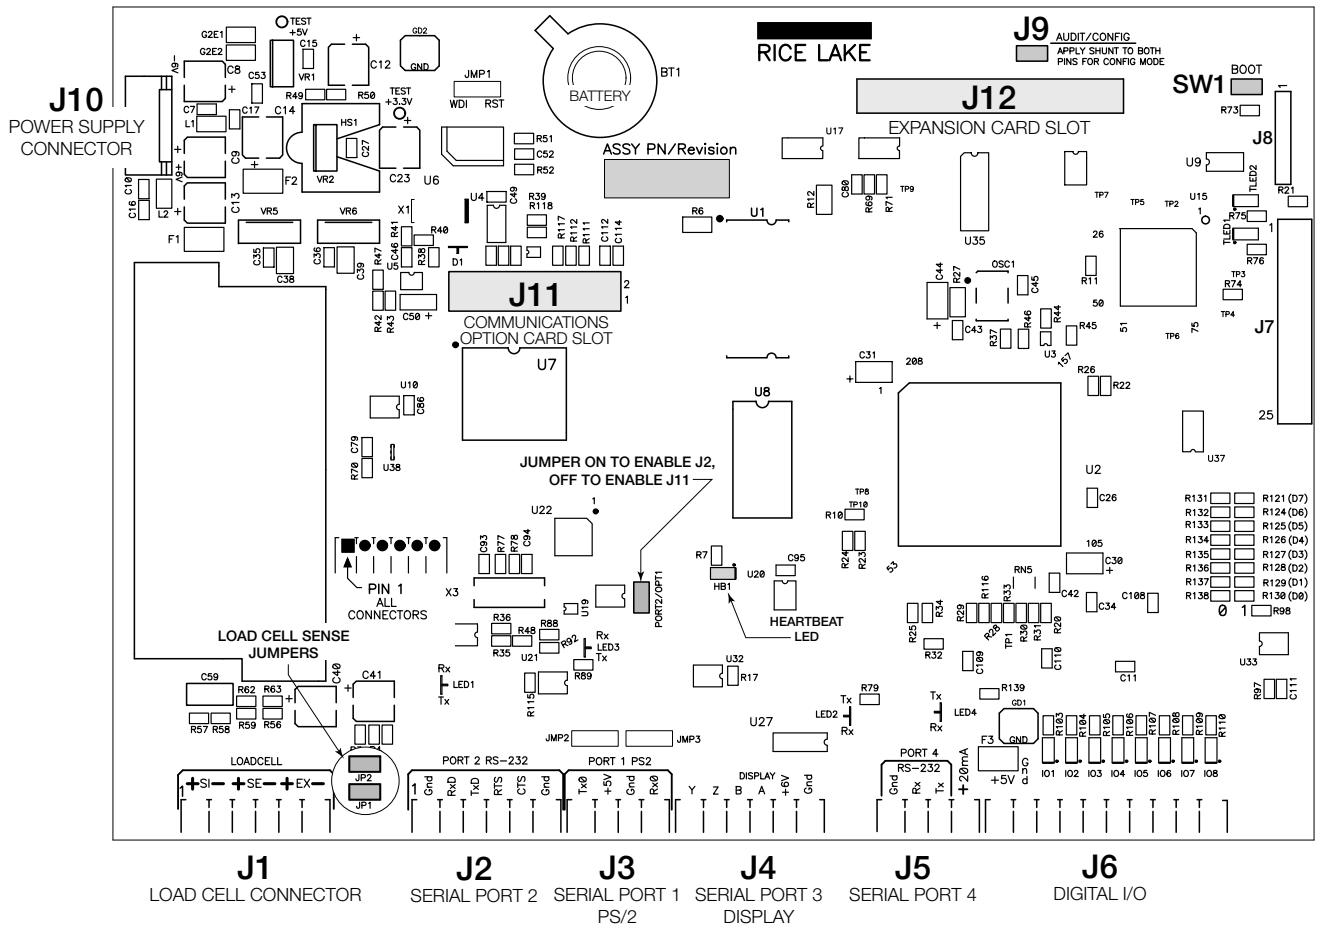

Figure 2-3. 720i CPU Board
Note *Installation of option cards in connector J11 requires removal of the PORT2/OPT1 port selection jumper (see Figure 2-3 on page 9). Install the jumper to enable RS-232 communications through connector J2; remove the jumper to enable an USB, fiber-optic, or Ethernet option card installed in connector J11.*
Table 2-4 shows the connections between connector J4 on the 720i CPU board and connector J3 (Com 1) on the detached display module (DDM) board. See board diagrams in Figures 2-3 and 2-4, on page 9.
2. Carefully align the option card connector with connector J12 or J11 on the CPU board (see Figure 2-3 on page 9). Press down to seat the option card in the CPU board connector.
3. Use the screws provided in the option kit to secure the other end of the option card to the threaded standoffs on the CPU board (see Figure 2-3).
Table 2-5 lists the slot numbers, CPU board connectors, and configuration assignments made for both onboard and expansion card functions in the 720i. See Figure 2-3 for connector locations.
See Figure 2-3 on page 9 for CPU board battery location and orientation (positive side up).